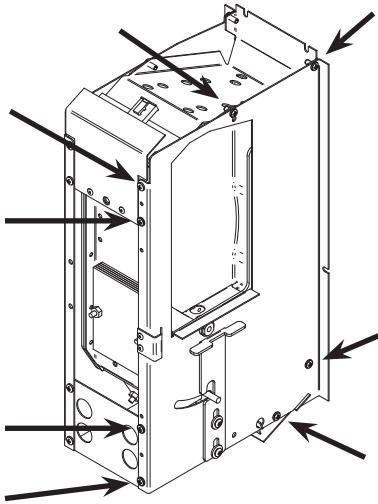

Figure 7.
24. Remove the existing port box from the housing assembly. (Refer to Figure 7.)